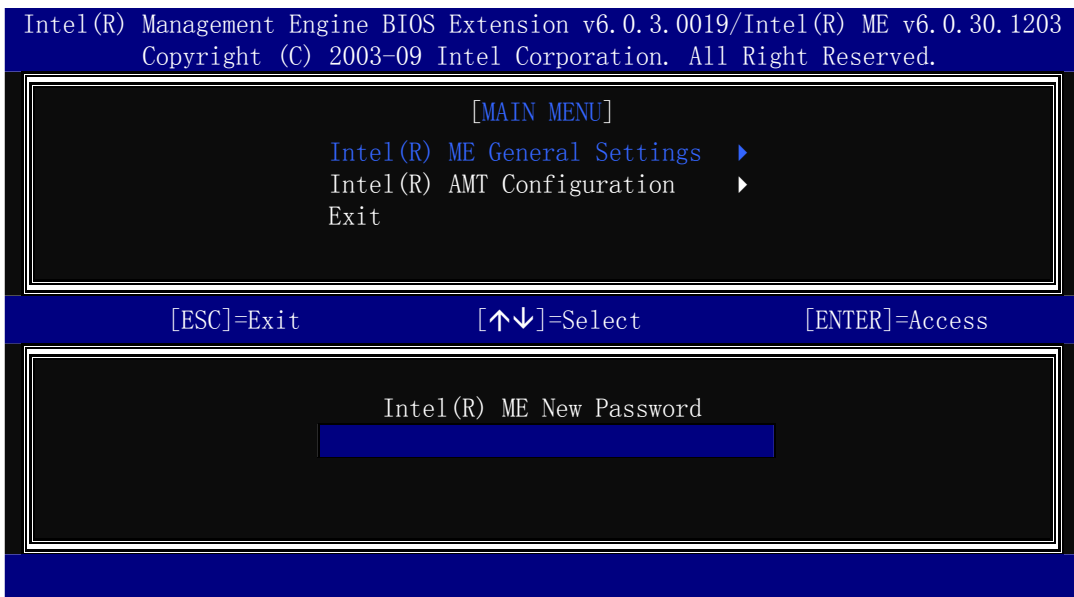

Figure A-3: Intel® ME New Password
- Step 3:** Enter a new password following the strong password rule (containing at least one upper case letter, one lower case letter, one digit and one special character, and be at least eight characters). (Figure A-3)